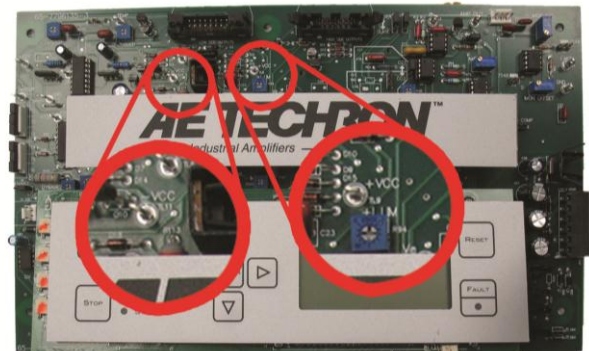

Figure 7.1 - +Vcc and -Vcc test point locations
5. You can verify the capacitor discharge by connecting a voltmeter across +Vcc and -Vcc test points on the main board (**see Figure 7.1**). Verify a reading of less than 5 volts before proceeding.